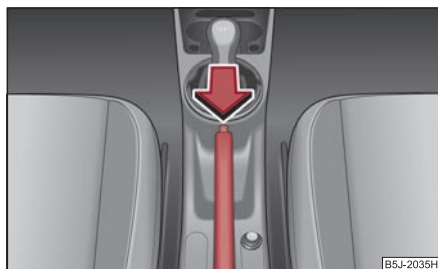

Fig. 126 Centre console:
- Pull the handbrake lever up slightly and **at the same time** press in the locking button ⇒ fig. 126.